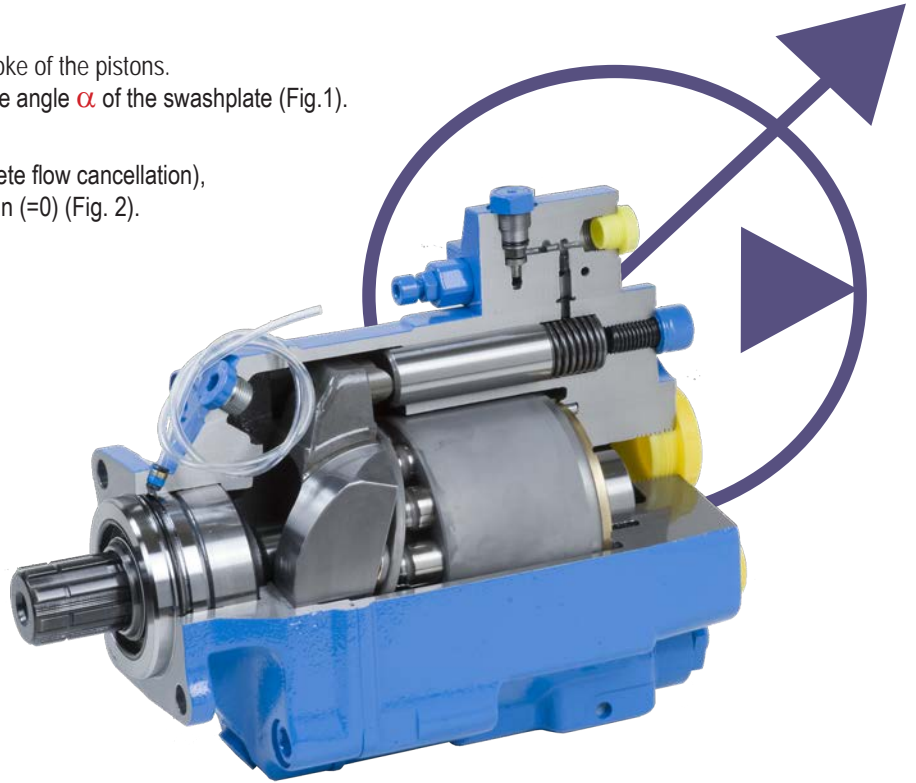

Figure 1 - Maximum displacement
- ▶ The displacement of the pump is proportional to the stroke of the pistons. Displacement – and thus flow - is varied by changing the angle α of the swashplate (Fig. 1).
- ▶ To change displacement from maximum to zero (complete flow cancellation), the swashplate angle goes from α max (Fig. 1) to α min (=0) (Fig. 2).